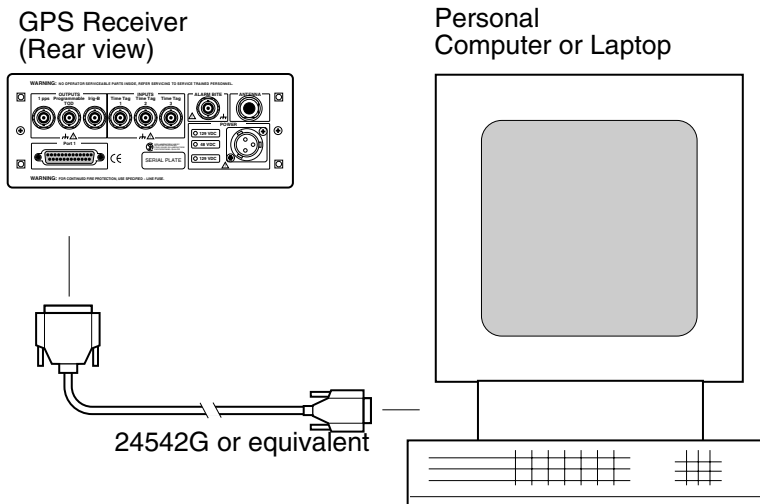

Figure 1-4. Connecting the GPS Receiver to a Computer
- 2 Connect the GPS Receiver to a personal computer (PC) via the rear-panel **PORT 1** RS-232 port using an 24542G interface cable as shown in Figure 1-4.